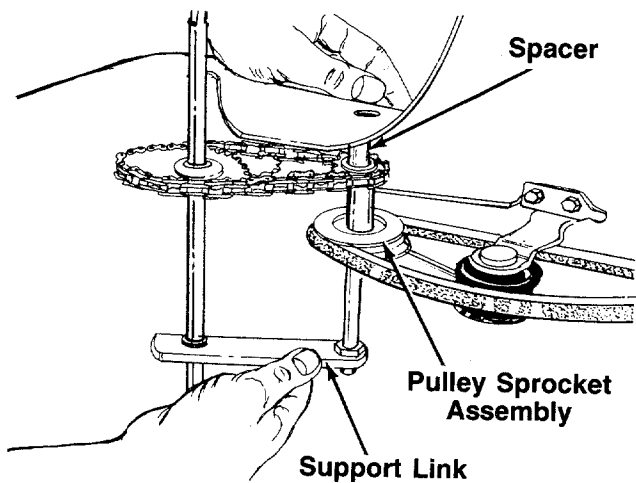

FIGURE 20.
9. Slide the support link down the rear axle, removing it from the side of deck and pulley sprocket assembly. See figure 20.
10. Remove the spacer from pulley sprocket assembly. See figure 20.